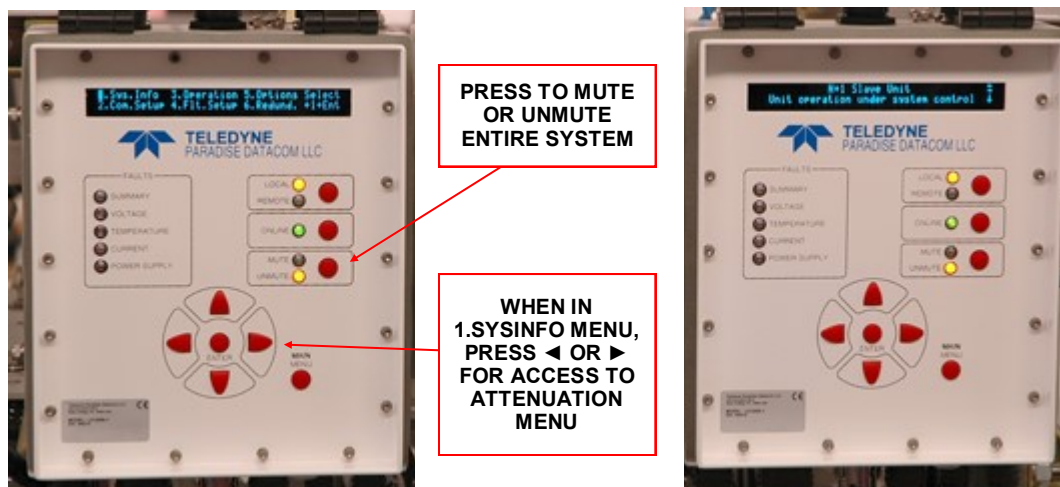

Figure 4-1: Outdoor SSPA Controllers (Master, left, and Slave, right)
An 8-way HPA system is comprised of two arrays of four (4) High Power Outdoor amplifiers (HPAs). A RF distribution box provides a single RF input, which is then split to each of the system amplifiers. This weatherproof enclosure also houses the system RF Power Detector module. The output of each High Power Outdoor amplifier in the array is phase combined to a single output. The 8-way system has two outdoor controllers in a master/slave configuration. Each controller is powered by an auxiliary DC output from four (4) of the HPAs. See **Figure 4-1**.